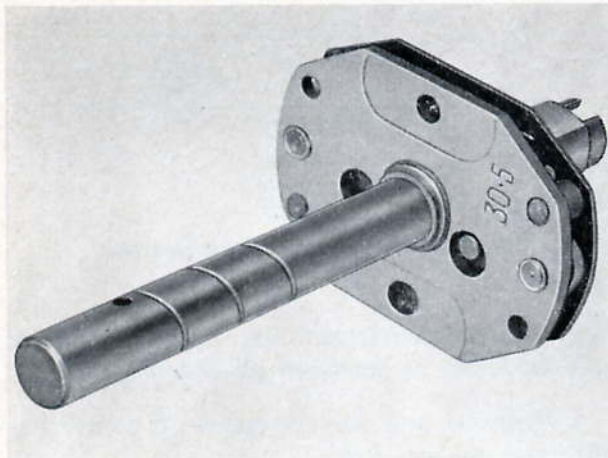

Fig. R.16. Underside of centrifugal advance mechanism showing location of identification number '30·5'
1. Check that the mainshaft has the identification number 30·5 stamped on the underside of the plate (Fig. R.16).